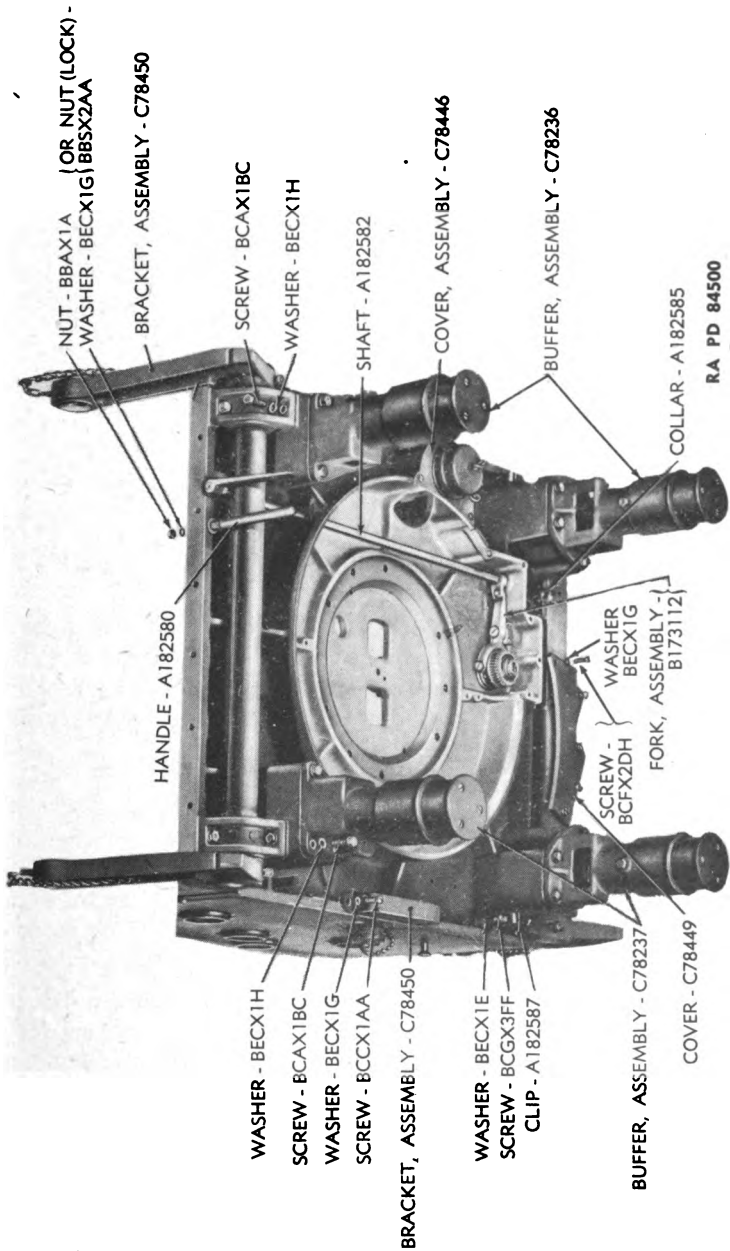

Figure 48 — Under Side of Base, Showing Assemblies Attached to It
a. Four buffer assemblies, two each C78236 and C78237, are bolted to the under side of the director base to support the director when it is not mounted on the tripod (figs. 48 and 49). The assemblies are identical except that the body castings of the right- and left-hand buffers are reversed. Each buffer contains a spring to cushion and distribute the weight of the director evenly.
b. **Carrying Bar Brackets.** Two carrying bar bracket assemblies C78250 (figs. 48 and 50) are fastened to the base casting for convenience in lifting the director. They accommodate the same carrying bars which are used to carry the packing chest. Pins, chained to the arms, may be inserted to prevent slipping on the bars. The arms swing downward and are held out of the way during operation of the director by means of two clips A182587.